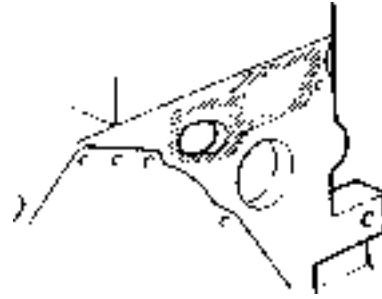

Fig. 108. Application of sealing compound (silicon)
3. Apply sealing compound (silicon, Volvo Penta part No. 1161277-7) on the cylinder block as per Fig. 108, shaded area.